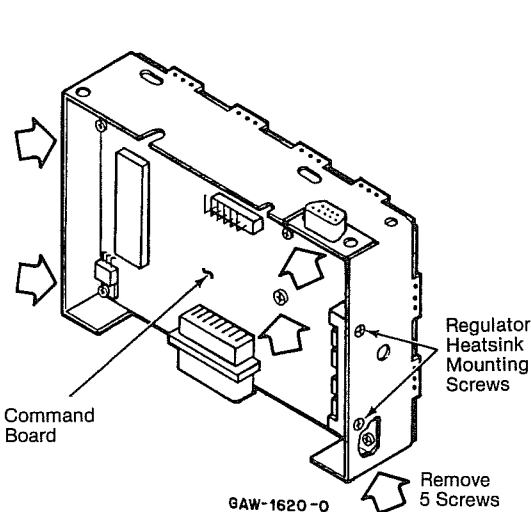

Figure 14
(2) Once the RF board is out, turn the radio over and remove all the command board mounting screws (Figure 14).
(3) Now remove the two regulator heat sink mounting screws from the side of the chassis (Figure 14) and lift out the command board.